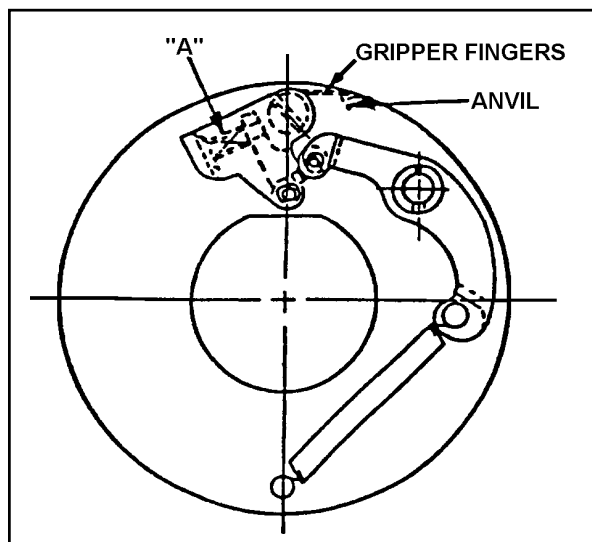

Figure 46 - Impression Cylinder Paper Grippers
1. Check gripper fingers (1), stop assembly (2), and eject fingers (3) for malformation. Correct if necessary.
4. Check for a .010" to .013" clearance between the paper stops and the cylinder anvil in the closed position (see Figure 46).